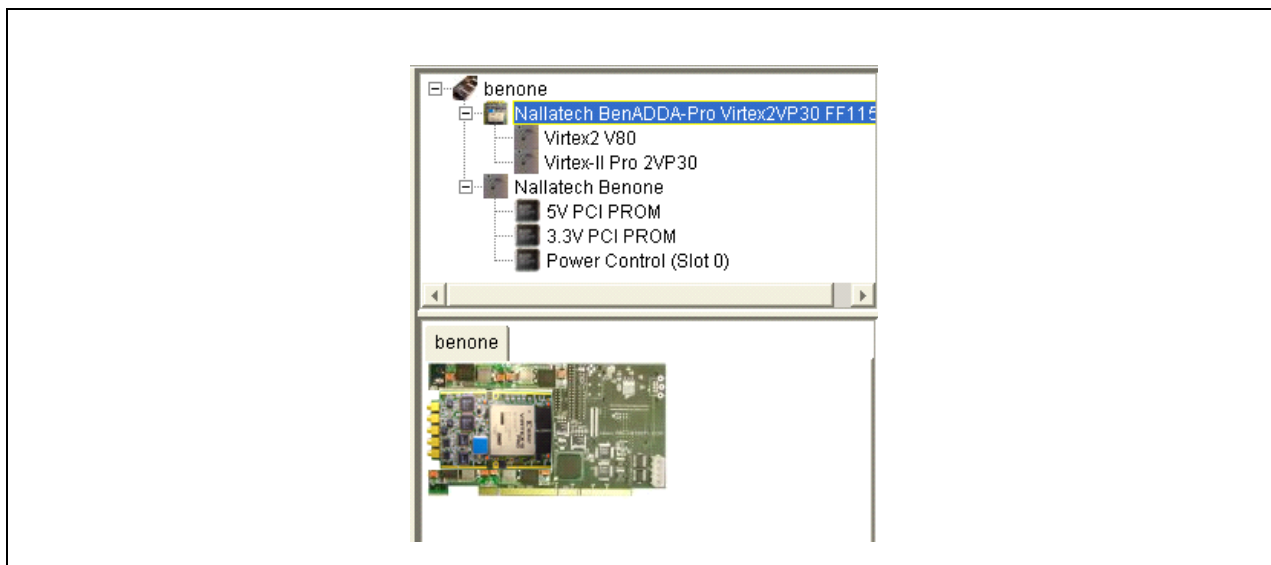

Figure I 17: Opening the Card in FUSE
- From FUSE, select Card Control -> Open Card. Then select USB for the interface and click on '**Locate Card**'. At this point FUSE locates the BenONE-Kit Motherboard and the top left corner of the FUSE Probe Tool displays the FPGA information as shown in **Figure I 17 on page 197**. If you have the card plugged into a PCI slot then select to open the card via PCI.